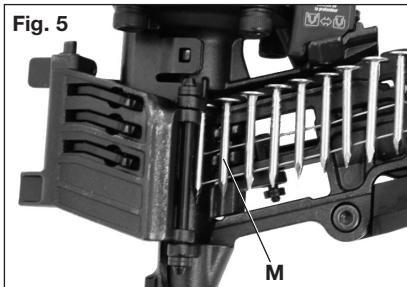

Fig. 5
8. Insert the first nail into the nose and the second nail (M) between the two rails of the feed pawl as shown in Fig. 5.